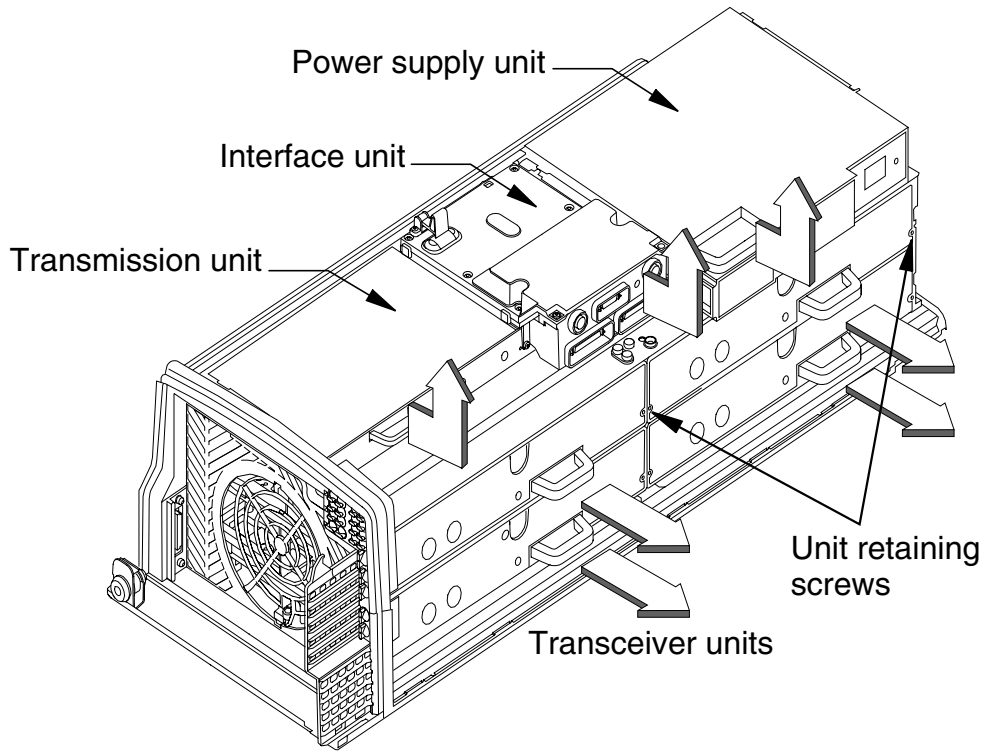

Figure 4. Removing the units
1. Lay the BTS on its back, in the position shown in Figure 4.
4. Remove the power supply unit, interface unit, and transmission unit by pulling each unit out until it comes to a stop. Then lift the unit upwards and outwards to remove it. See Figure 4.